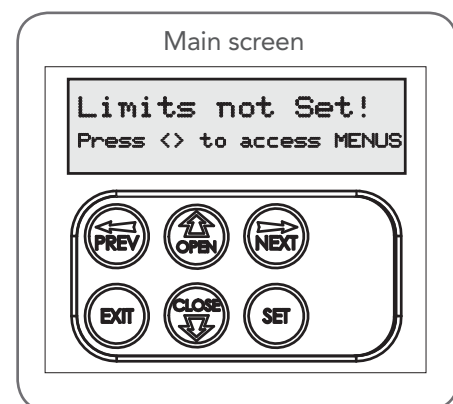

Fig 6.3
- If this is the first time the NeoSlider™ has been used, the MAIN SCREEN should indicate that the limits are not set (**Fig. 6.3**). If the display shows that some input is active then rectify the situation before proceeding. If a default setting is to be changed it should be done now before setting the travel limits.